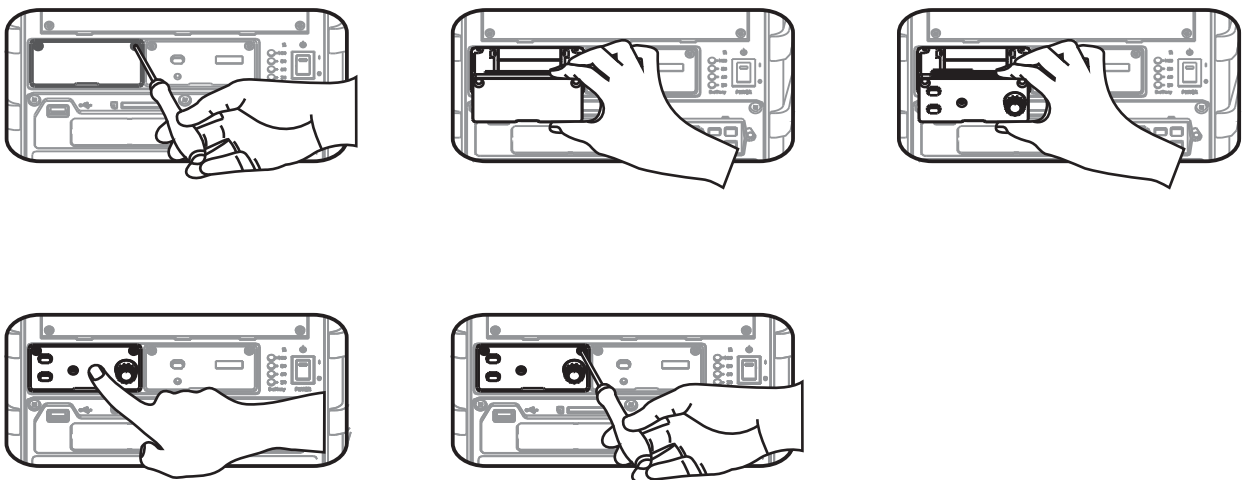

Fig. 11
3. Installation or replacement of wireless receiver modules, Fig. 11.
- (A) Power off the system first.
- (B) Remove the 2 screws on the receiver module.
- (C) Remove the front blank plate.
- (D) Insert the receiver module.
- (E) Push in and align the edge connectors firmly and tightly.
- (F) Fasten the screws tightly.